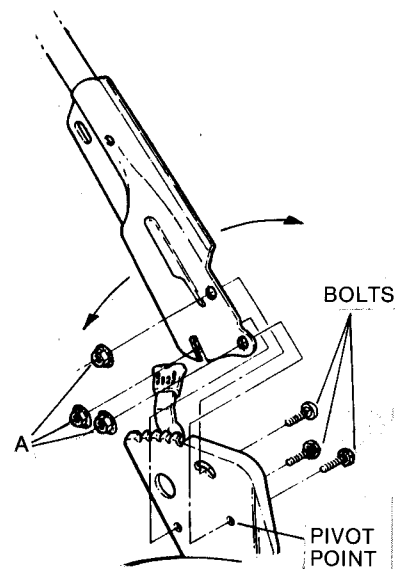

FIG. 19
To raise or lower handle (13), loosen the adjusting locknuts (A) on both sides of handle shown in FIG. 19. Reset handle to desired position and re-tighten the locknuts.